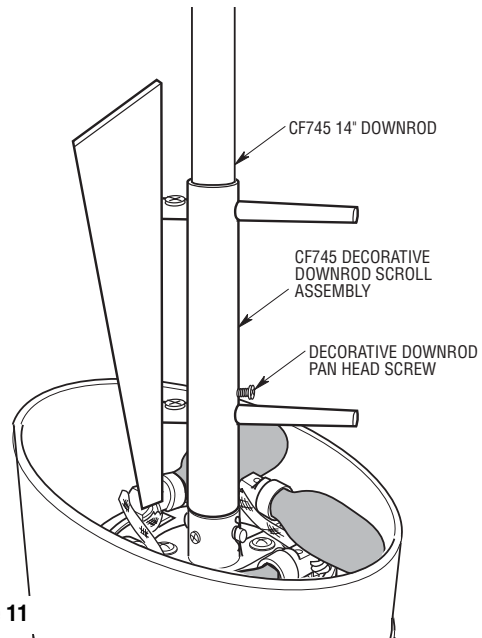

Figure 11
- 12. **CF745 INSTALLATION ONLY:** Slide the decorative scroll assembly over the 14" downrod (supplied with CF745 hangerball) until it rests on the motor coupling (Figure 11). Tighten the decorative downrod pan head screw to secure to 14" downrod.
**NOTE: If you installed the 6" downrod on the CF745, the decorative scroll assembly will not be installed. Disregard Step 12 and Figure 11.**